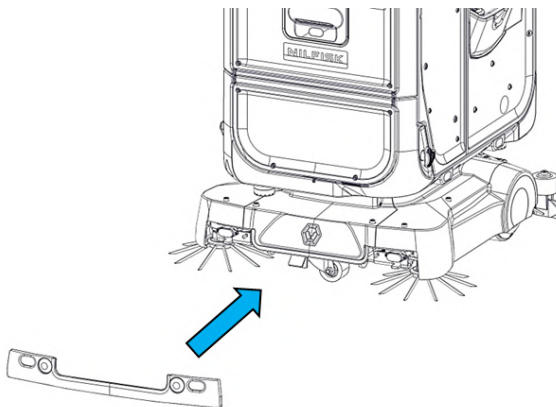

FIGURE 10-24
5. Replace the cover by pushing the cover firmly back such that the 2 mating metal rods lock into the buttons (**Fig. 10-24**).